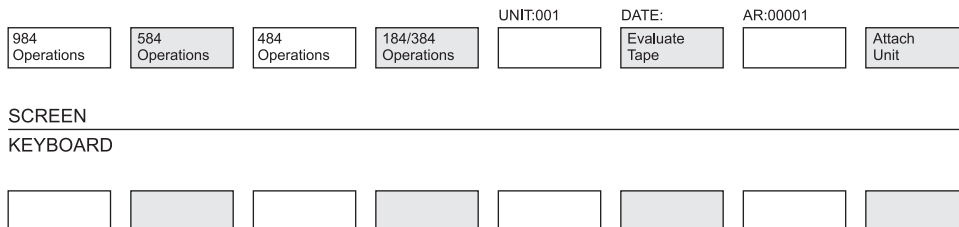

Figure 3-3
- When the <Attach Unit> prompt appears on the software label keys, enter the unit number assigned from the Modbus Plus Data Highway Chart to the PLC on which you are working. *See Figure 3-3.*